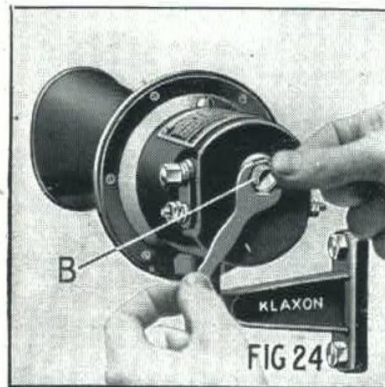
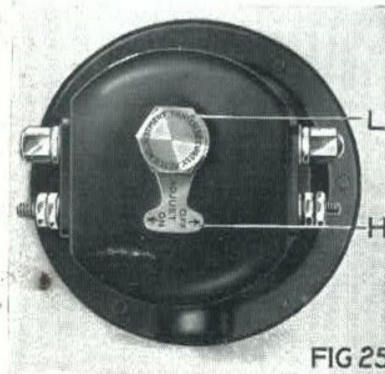

FIG 24
FIG 25
- (3) Rotate the bush "B" (Fig. 24) backwards (off) about half a turn, either by means of a coin or broad screwdriver (in the case of Fig. 24), or by means of the handle "H" in the case of Fig. 25.
- (4) Press the push-button, at the same time holding the bush "B" from rotating. You should hear the noise of the armature buzzing round.